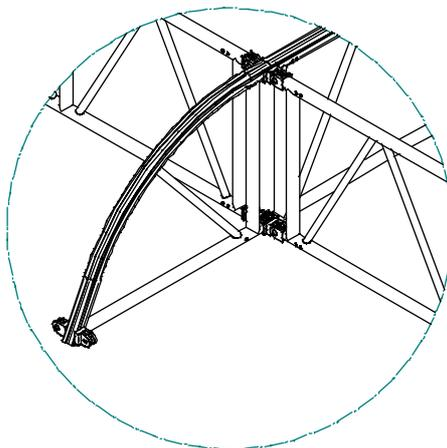

Fig. 8
- b. Using the special curved FL76111RH trusses, suitable for the guiding of the covering fabric in a downward direction. These are connected to the structure in the same way as the other trusses are connected. They must be prepared to accept the fabric tube by inserting a pair of screw bolt and screw nut connectors into the correct hole (see fig. 8).